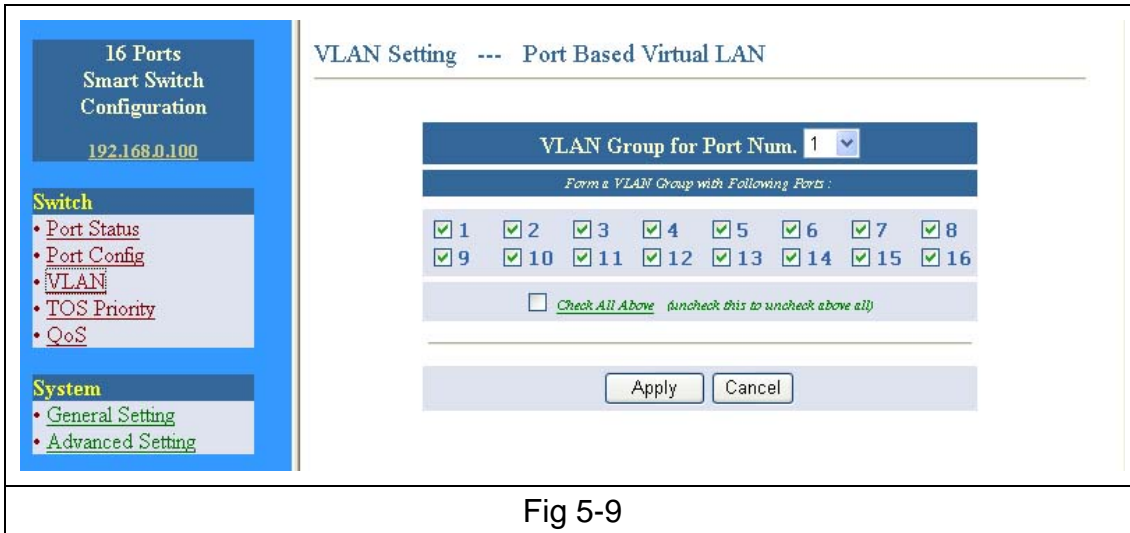

Fig 5-9
1. Select VLAN group number. It supports 16 VLAN Groups. (Fig 5-9).